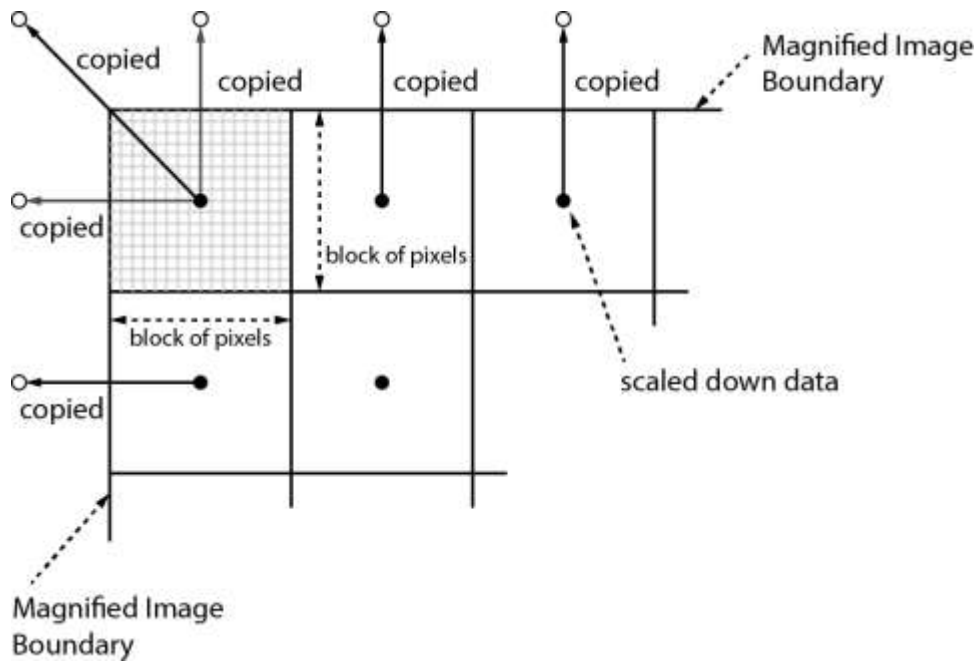

Figure 9.9 Bilinear Interpolated Magnification
3. Execute the **Flat Field Data Save** parameter to save the generated Flat Field data into the non-volatile memory. When the scaled down Flat Field data are used for corrections, they are expanded and applied with a Bilinear Interpolation as shown in the Figure 9.9.